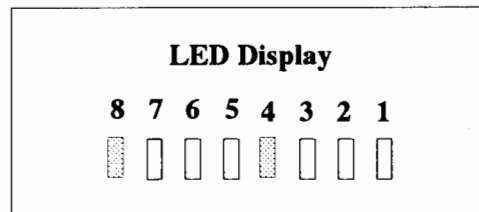

Figure 6-2. LED Display for CRX and HCRX Graphics Check
8. When LED indicators number 8 and 4 are lit (and all other amber LEDs are off), press the TOC switch on the front of the system unit. (See Chapter 1 of this manual for the TOC switch location.) This LED pattern indicates that the system is checking the CRX or HCRX graphics for errors. See Figure 6-2.